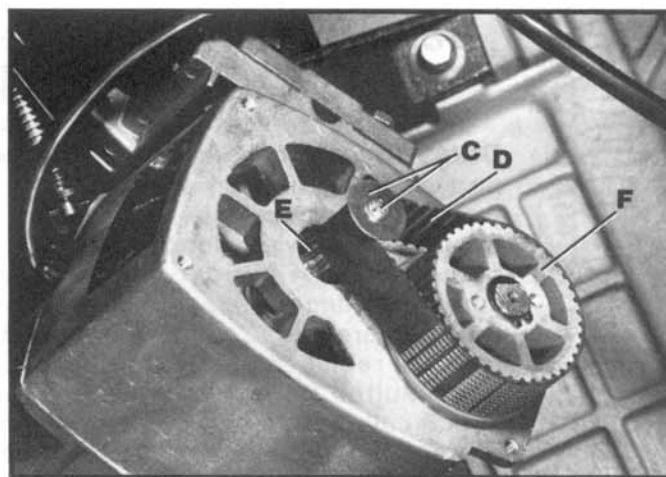

Fig. 50
5. Remove the screw and washer (C) Fig. 50. Slide belt (D) off the motor shaft (E) and arbor pulley (F).
7. Replace screw and washer (C) Fig. 50, and cover that were removed in **STEP 4**.